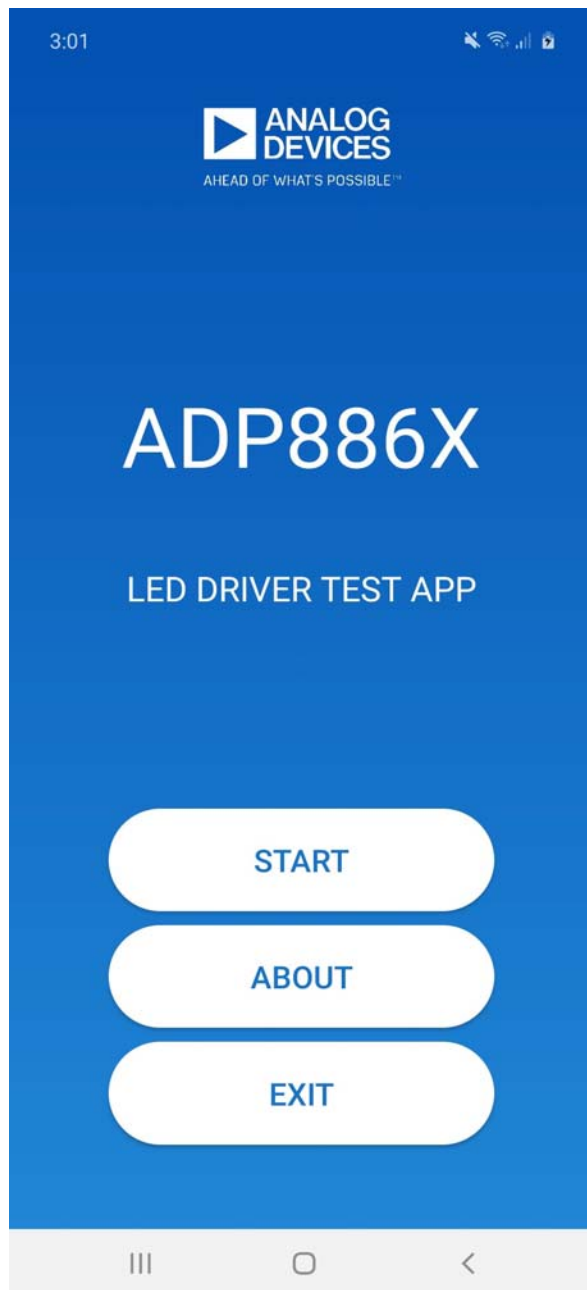

Figure 17. Title Page for the Android App
2. After installation completes, run the **ADP886X LED DRIVER TEST APP** (see Figure 17).